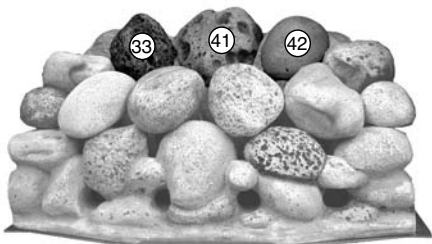

Fig. 37
5. Place the remaining three loose pebbles in line on the next row up, again making sure all the gaps are even. It is important that the pebbles 'bridge' the peaks of the fuel bed and are not placed in between. This helps the flow of burnt gases and should give an even glowing fuel bed (Fig. 37).